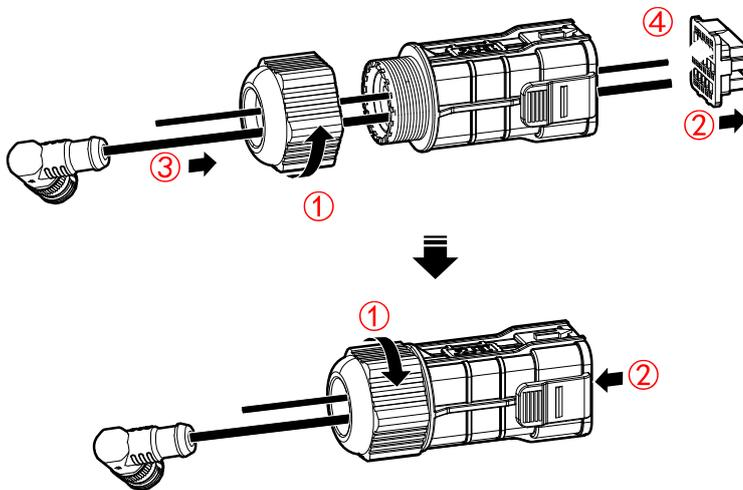

Figure3-32 Prepare the COM. communication wire
Step 1 Strip the insulation layer of the battery communication wire and smart meter communication wire by wire stripper for about 4.5mm, loosen the lock nut of the COM. connector, pull out the connection head of the COM. connector, draw the battery communication wire and smart meter communication wire through the lock nut and body of the COM. connector, press the corresponding button on the connection head and connect the communication wire to corresponding pin. After wiring, tighten the lock nut of the COM. connector, and insert the connection head of the COM. connector, as shown in Figure3-32.